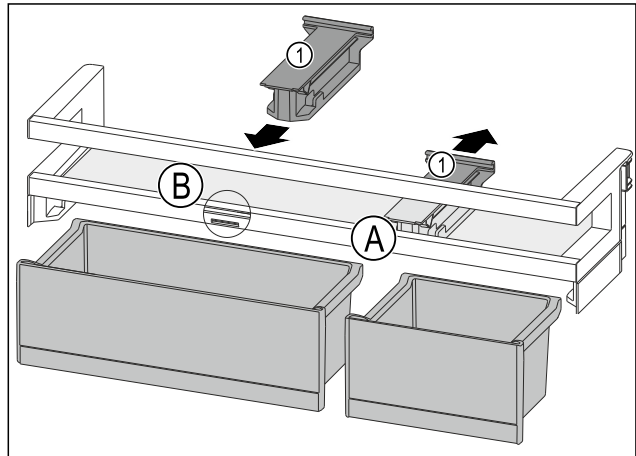

Fig. 142
- ▶ Take off the holding part Fig. 142 (1) in position Fig. 142 (A) backwards.
- ▶ Insert the holding part Fig. 142 (1) in position Fig. 142 (B).